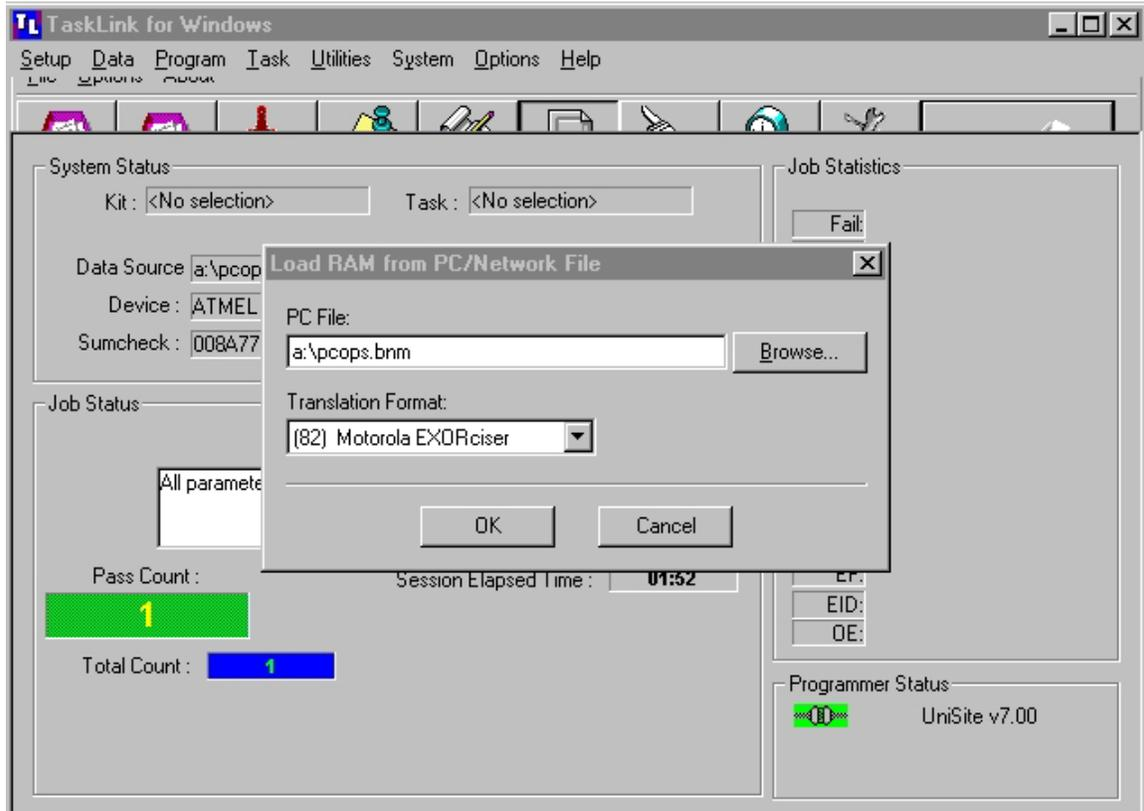

Fig. 8. TaskLink. Load RAM procedure
(82) Motorola EXORciser (see Fig. 8).